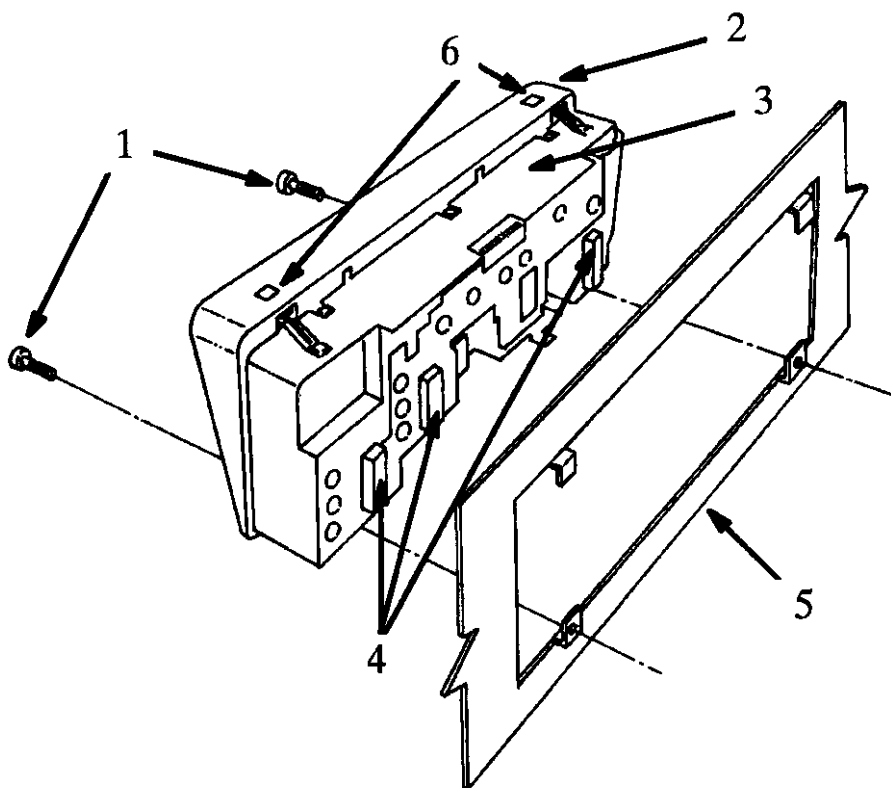

Figure 14 Instrument Cluster Assembly
2. Remove the two cluster mounting screws (Item 1, Figure 14) located on the lower front face of the cluster.
3. Depress the two gray retaining tabs (Item 6, Figure 14) located on the top corners of the bezel.